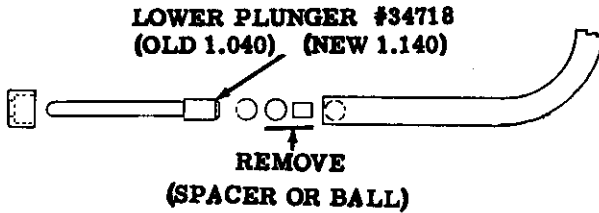

Figure 10. PLUNGER REPLACEMENT
d. Lower tube plunger was made longer. An early model plunger will extend about 13/16 inch from the tube cap while a latter model will extend about 7/8 inch. An old plunger can be replaced as follows (figure 10).